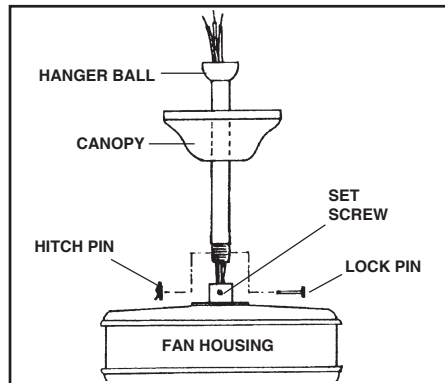

FIG. 9
Step 4. Carefully feed fan wires up through the downrod. (Fig. 8) Thread the rod into the coupling, next line up holes, secure with the lock pin and hitch pin. Tighten set screws. (Fig. 9)
Step 5. Slip canopy onto downrod. (Fig. 9). Carefully reinstall hanger ball onto rod being sure that crosspin is in correct position, set screw is tight and wires are not twisted.